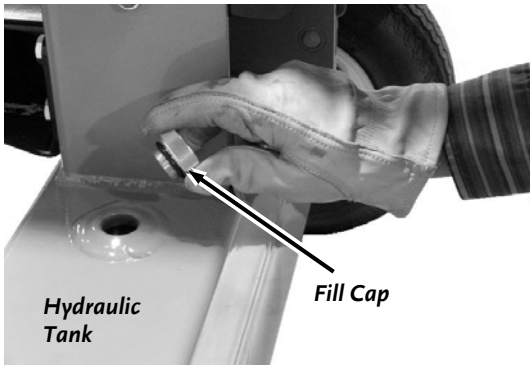

Figure 55
- b. Remove the hydraulic tank fill cap and fill the tank with the recommended type and quantity of hydraulic fluid (**Figure 55**). Replace the cap.